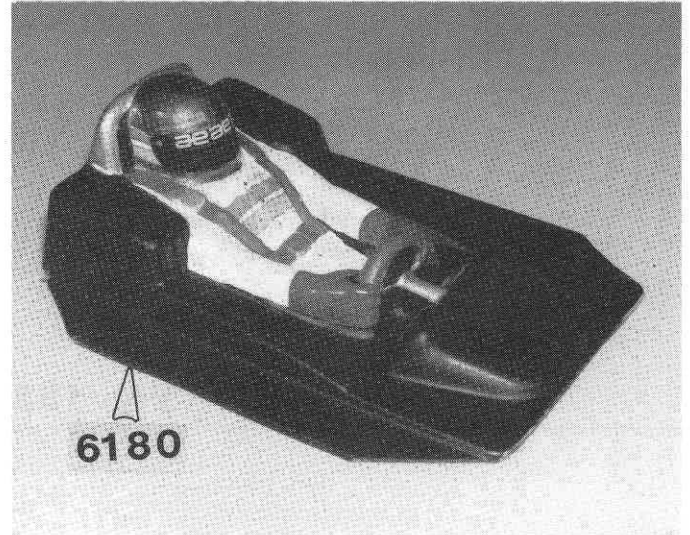

Fig. 158
□ **Fig. 158** The #6180 clear lexan driver can be painted to look quite life-like. If you paint the helmet and visor on the inside, they will have a glossy appearance. Then if you paint the rest on the outside, it will be very life-like. You can use the small brush on paint bottles available in hobby stores. The lexan driver should be trimmed as shown, then it will slide up into the body, and two pieces of tape will hold it in place.